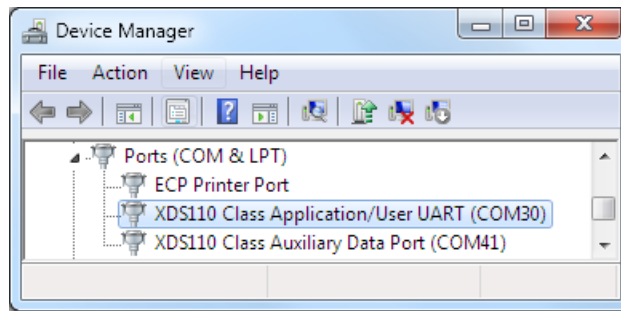

Figure 19. Determine COM Port Number Using Device Manager on Windows
4. Launch a serial terminal application and connect to the COM port for "XDS110 Class Application/User UART" at 115200 baud rate (see Figure 19 and Figure 20).